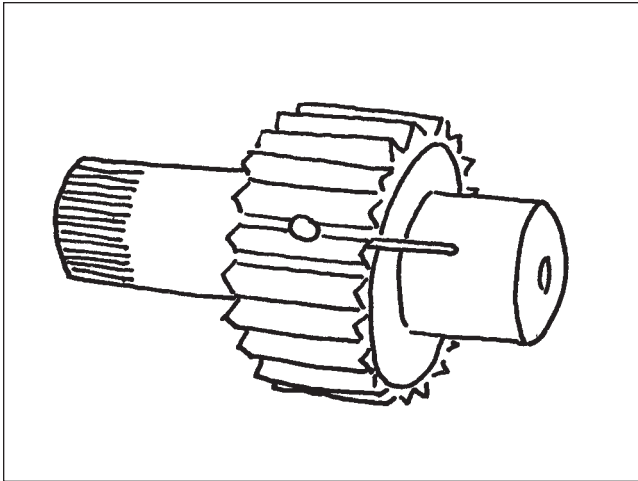

Figure 111
1. The pinion gear is located and held in place on the output shaft with a retaining pin. A roll pin through the pinion gear will keep the retaining pin from backing out of place. To remove the pinion gear, punch out the roll pin and drill out the retaining pin. Press the pinion gear off the output shaft (Figure 111).